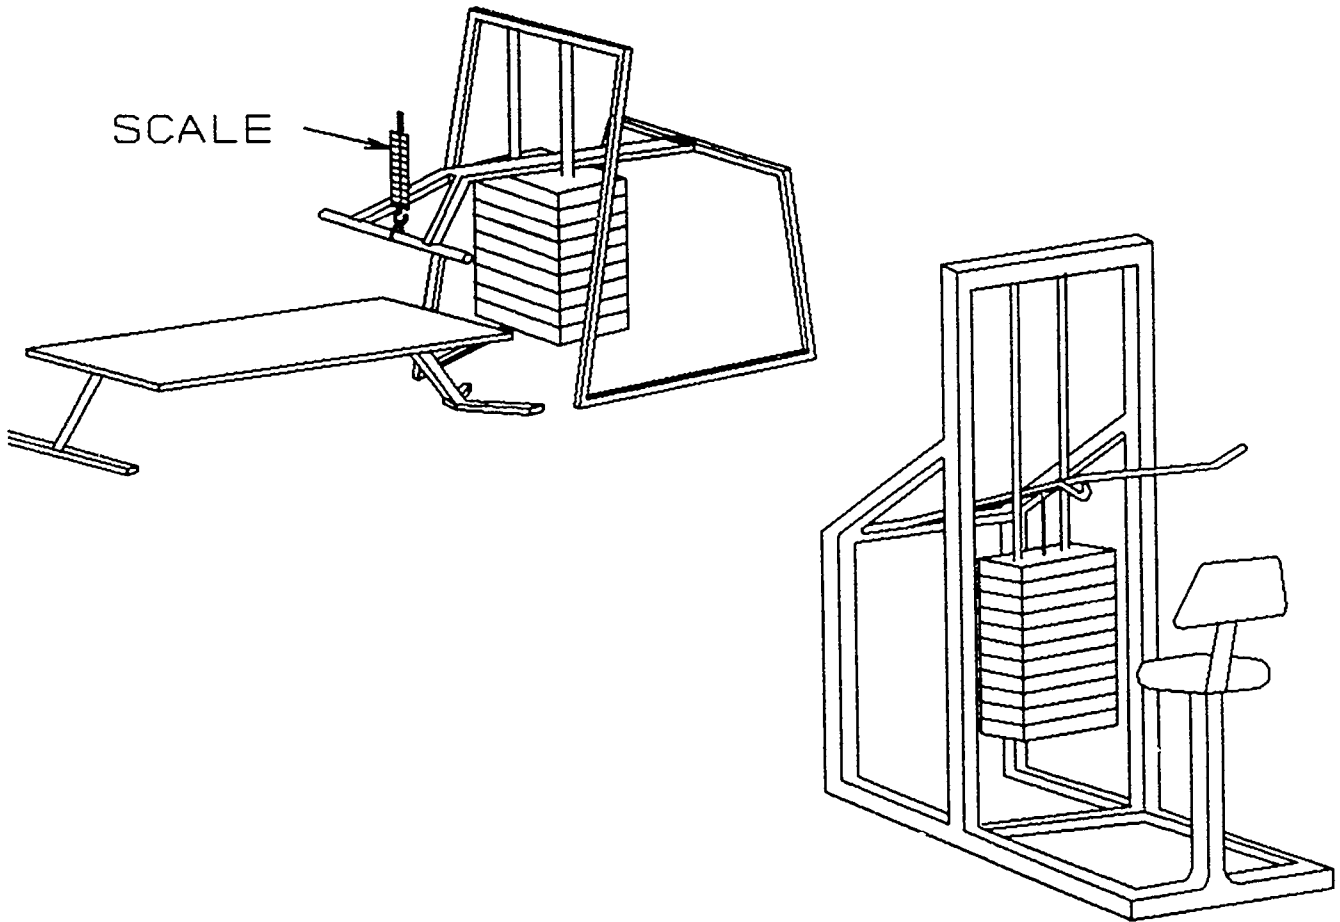

Figure M-9-2
3. Attach a wire across the "handle bars" of the lever arm as shown in Figure M-9-2, "Shoulder/Press Diagram."